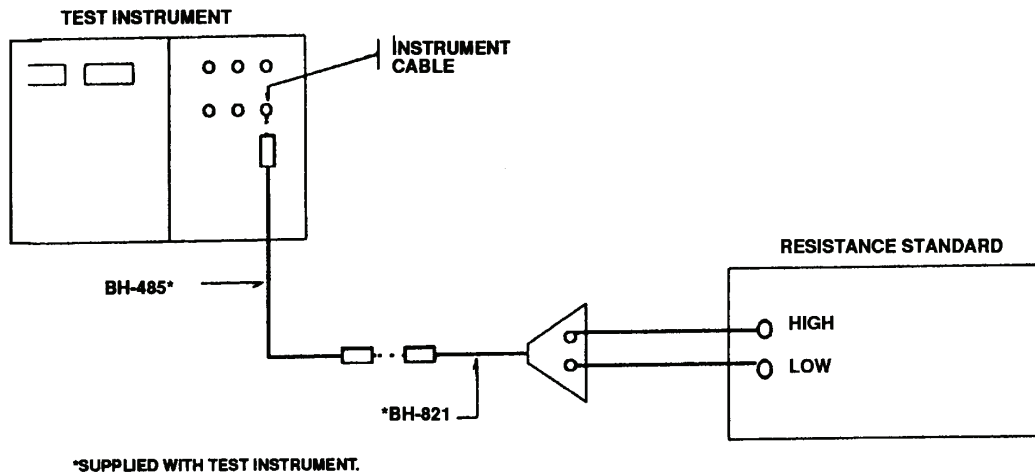

Figure 11. Insulation resistance and resistance check.
- (1) Disconnect heater probes and heater cable from TI.
- (2) Set **FUNCTION SELECT** switch to **INSUL**. **INSULATION RESISTANCE** meter should indicate infinity.
- (3) Connect equipment as shown in figure 11.
- (1) Replace BH-821 adapter with BH-823 adapter in equipment set up in figure 11.
- (2) Set **FUNCTION SELECT** switch to **RES** and **RESISTANCE CHECK** switch to **NULL BAL**.
- (3) Disconnect resistance standard and adjust **RESISTANCE & A/C INDICATOR CHECK** meter for **0** indication.
- (4) Set **RESISTANCE & A/C INDICATOR CHECK** switch to **22 Ω**.
- (5) Reconnect and set resistance standard for 21 Ω. **RESISTANCE CHECK** meter pointer will deflect to the left of 0-center, to a point greater than 0.4 Ω indication. Set resistance standard for 23 Ω. **RESISTANCE CHECK** meter pointer will deflect to the right of 0-center, to a point greater than 0.4 Ω indication; if not, perform **b** (1) and (2) below.
- (6) Adjust resistance standard for a 0 indication on **RESISTANCE** meter. If resistance standard does not indicate between 21.95 Ω and 22.05 Ω, perform **b** (3) below.
- (7) Repeat (4) and (6) above for 15 Ω. If resistance standard does not indicate between 14.95 Ω and 15.05 Ω, perform **b** (4) below.
(8) Repeat (4) and (6) above for 8  $\Omega$ . If resistance standard does not indicate between 7.95  $\Omega$  and 8.05  $\Omega$ , perform **b** (5) below.
(9) Repeat (4) and (6) above for 4.21  $\Omega$ . If resistance standard does not indicate between 4.16  $\Omega$  and 4.26  $\Omega$ , perform **b** (6) below.
(1) Replace BH-823 adapter with BH-822 adapter in equipment setup shown in figure 11, and remove resistance standard connection.
(2) Set **FUNCTION SELECT** switch to **A/C IND CHK** and **RESISTANCE & A/C INDICATOR CHECK** switch to **NULL BAL**.
(3) Connect multimeter between (+) and (-) eyelets on BH-822 adapter. (If adapter is for D'Arsonval type indicator, A is (+) and B is (-).)
(4) Turn **A/C IND ADJ** potentiometer from ccw to cw end while observing multimeter indications. Range on potentiometer should be approximately 0 to 65 mV dc and there should be no open spots throughout the range. During this check, with **TEMPERATURE** switch set to **OPERATE**, **TEMP °C**, indicator should follow setting of potentiometer and display readings throughout range of ambient temperature to **1399 °C**.
(5) Set **RESISTANCE & A/C INDICATOR CHECK** switch successively to 8  $\Omega$ , 15  $\Omega$ , and 22  $\Omega$  positions. In each of the positions the multimeter will indicate higher values than when **RESISTANCE & A/C INDICATOR CHECK** switch is in **NULL BAL** position.